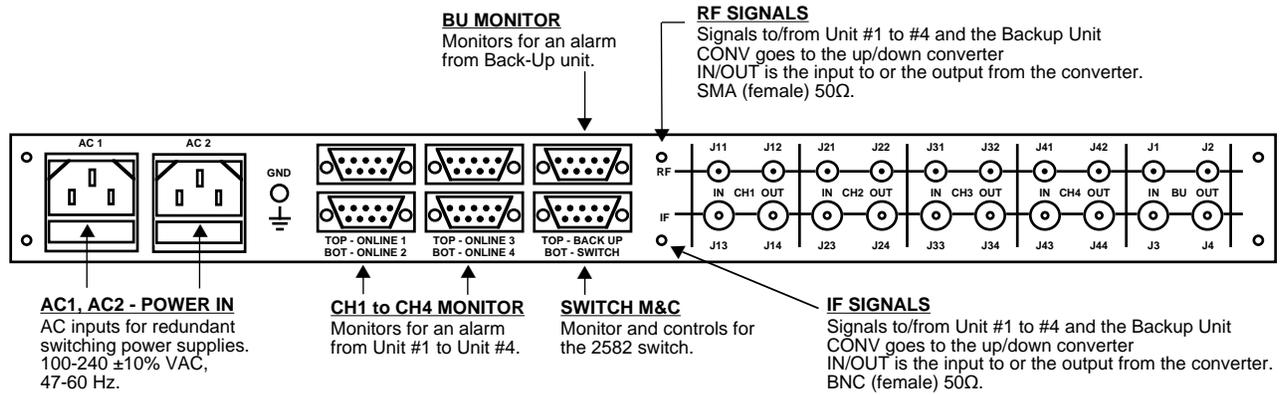

FIGURE 2.1 2582-143 Rear Panel I/O's
Figure 2.1 shows the input and output connectors on the rear panel.
1. Connect Converters (CH1, CH2, CH3, CH4, BU) to respective channels on the 2582 (Figure 2.1).
2. Connect Alarm/Control cables from Converters to respective monitors on the 2582 (Figure 2.1).
3. Connect two 100-240 \pm 10% VAC, 47 - 63 Hz power cords to AC A and AC B on the back panel (Figure 2.1).